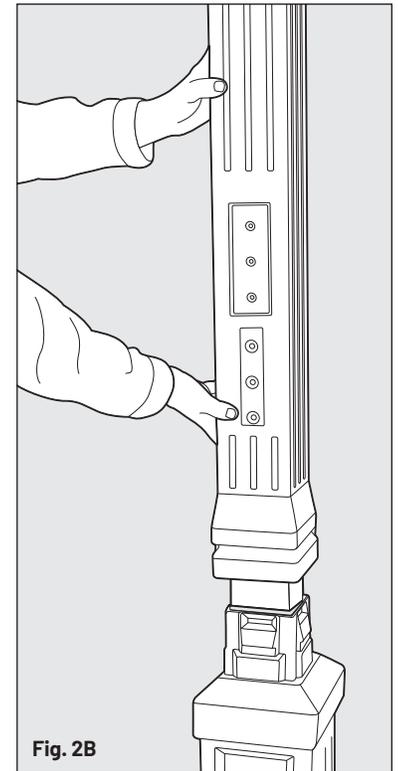

Fig. 2B
**STEP 2** Slide the Lower Post Section over the wooden post. **NOTE:** there is not a "front" to this section, so it does not matter what side is facing the street. Secondly, slide the Upper Post Section over the wooden post. **NOTE:** make sure the side with the part / screw pattern (shown in Fig. 2B) is facing the street. Press the Upper Section onto the Lower Section until the two components snap together completely.